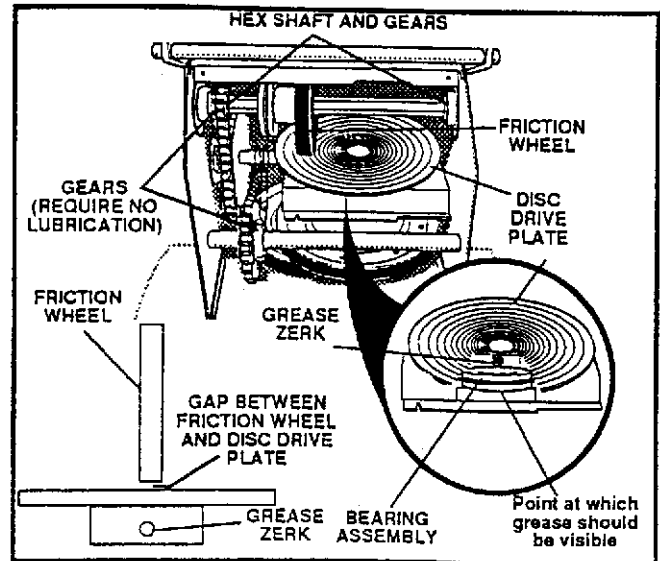

FIG. 2-MAINT
- Turn disc drive plate clockwise by hand until grease zerk is clearly visible at front center (See FIG. 2-MAINT).
- To grease zerk, use a hand grease gun, lubricate with a Hi Temp EP Moly grease. (See FIG. 2-MAINT inset) DO NOT over fill or allow grease to come in contact with the disc drive plate or friction wheel or damage will result. Fill zerk only until grease becomes visible below bearing assembly located under grease zerk. (See FIG. 2-MAINT inset)
- Hex Shaft and Gears - Hex shaft and gears require no lubrication. All bearings and bushings are lifetime lubricated and require no maintenance (See FIG. 2-MAINT).
NOTE: For storage, the hex shaft and gears should be wiped with 5W-30 motor oil to prevent rusting (See FIG. 2-MAINT).